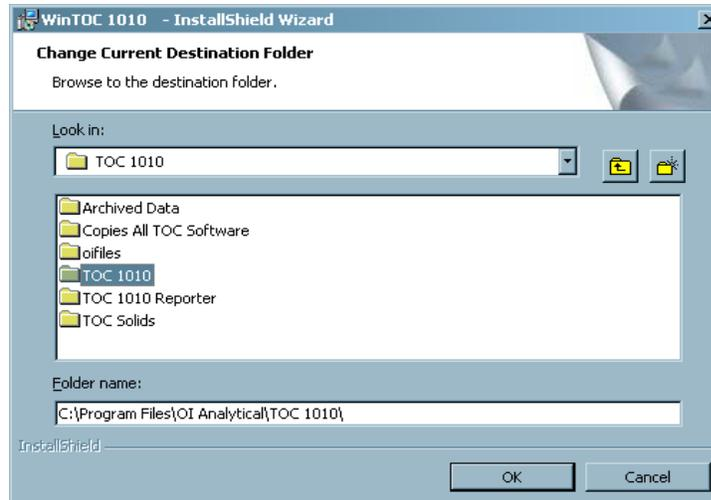

Figure 2.2. WinTOC 1010 Install Shield Wizard
5. During installation the **Change Current Destination Folder** screen will appear (Figure 2.2.). From this screen, install WinTOC in a local directory on the desktop PC or in a local network directory. If WinTOC is installed in a network directory, access it through a shortcut created on the local PC for that directory.